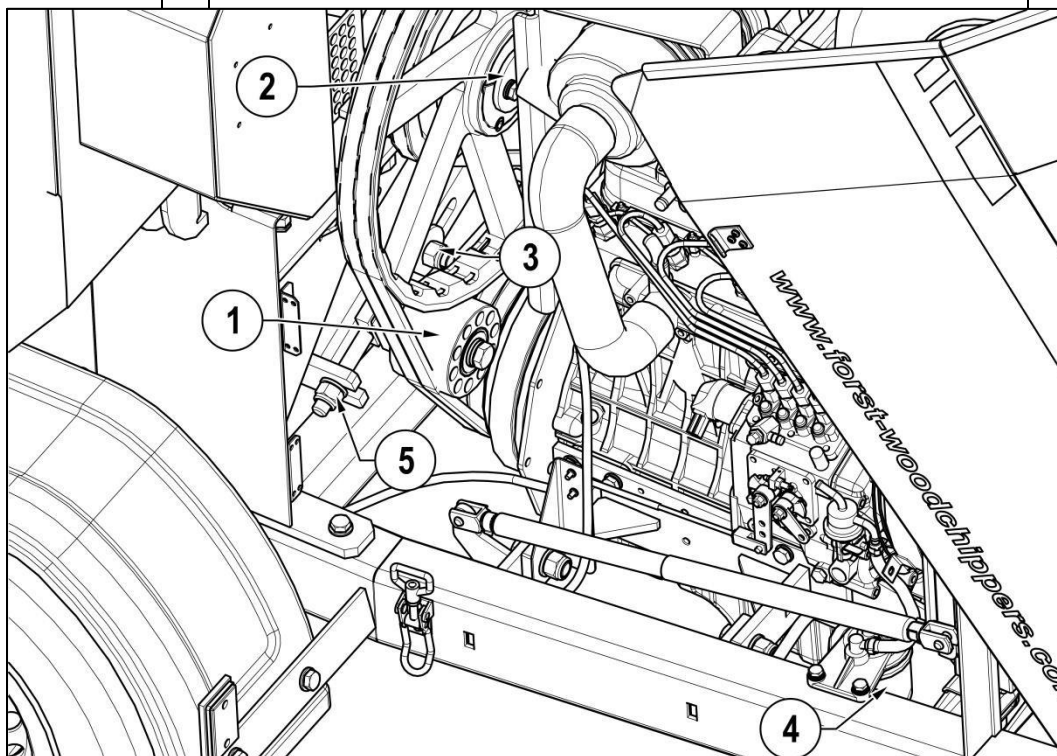
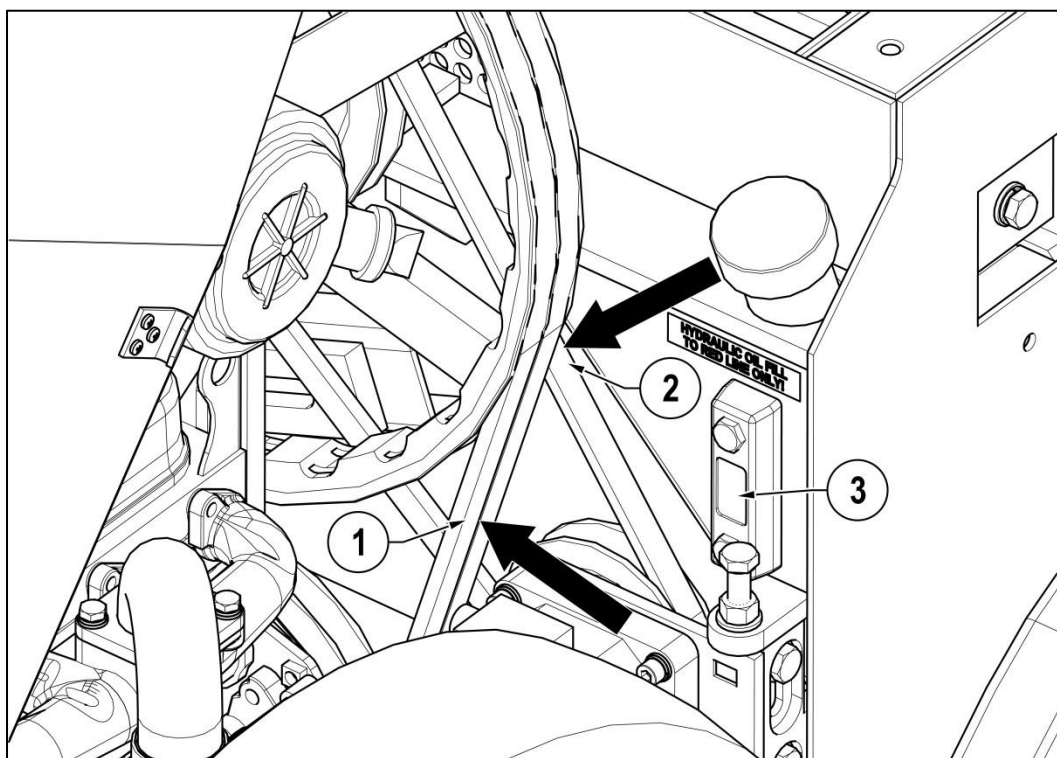

Figure 12
Figure 17
- Check hydraulic oil level. When the machine is new, the oil level may drop during initial use. Regularly check and top-up until level settles. If a top up is required, thoroughly clean around filler cap before removing to help prevent debris falling into oil tank, top up as required and replace filler cap. See Figure 12
- Check drive belt tension and adjust as necessary. See Figure 12, Figure 13 & Figure 17.
All drive belts are located under the engine cover as shown in Figure 12 and Figure 13 and tension checked at arrows shown in Figure 17. Check and set tension as follows:
3. Turn adjuster nut or screw to tension belt until 4.5Kg force at the belt longest centre span deflects by 6mm (see Figure 17). Can be approximated by firmly gripping belt between finger and thumb and twisting. The belt should not be able to be rotated more than 90°.